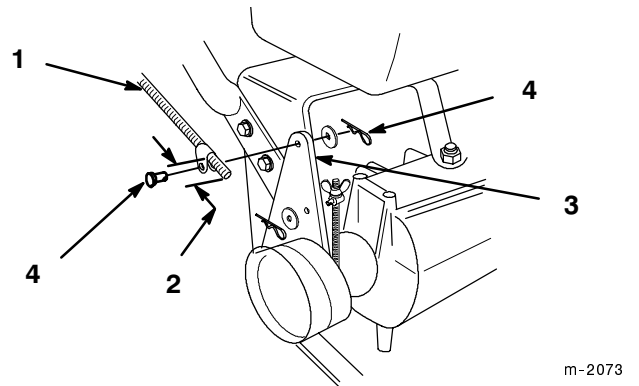

Figure 8
- Thread rod fittings equal distance onto each control rod. For a starting point thread on approximately 2 in. (51 mm) (Fig. 8).
- Slide clevis pins through rod fittings and mounting holes in idler brackets (from outside) (Fig. 8). Secure with washers and hairpin cotters (Fig. 8).